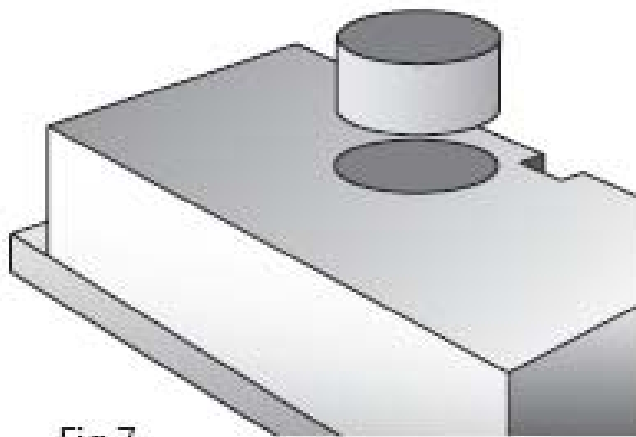

Fig 7
- ❑ Connect the spigot to the outlet (fig.7).